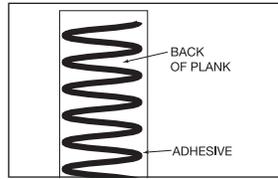

Figure 7
- If the Engineered Hardwood Flooring plank is wider than 5" it must be installed applying a 1/4" serpentine bead of Premium construction adhesive to the back of each board.** (Figure 7).